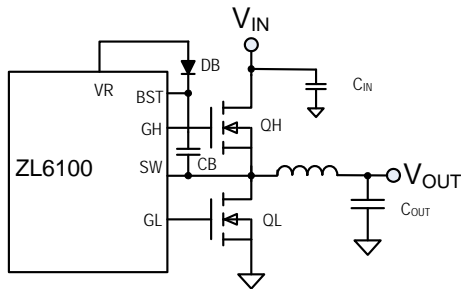

FIGURE 4. SYNCHRONOUS BUCK CONVERTER
Figure 4 illustrates the basic synchronous buck converter topology showing the primary power train components. This converter is also called a step-down converter, as the output voltage must always be lower than the input voltage. In its most simple configuration, the ZL6100 requires two external N-channel power MOSFETs, one for the top control MOSFET (QH) and one for the bottom synchronous MOSFET (QL). The amount of time that QH is on as a fraction of the total switching period is known as the duty cycle *D*, which is described by Equation 1:
Typically, buck converters specify a maximum duty cycle that effectively limits the maximum output voltage that can be realized for a given input voltage. This duty cycle limit ensures that the lowside MOSFET is allowed to turn on for a minimum amount of time during each switching cycle, which enables the bootstrap capacitor (CB in Figure 4) to be charged up and provide adequate gate drive voltage for the
The gate drive voltage for the high-side MOSFET driver is generated by a floating bootstrap capacitor, CB (see Figure 4). When the lower MOSFET (QL) is turned on, the SW node is pulled to ground and the capacitor is charged from the internal VR bias regulator through diode DB. When QL turns off and the upper MOSFET (QH) turns on, the SW node is pulled up to V_{DD} and the voltage on the bootstrap capacitor is boosted approximately 5V above V_{DD} to provide the necessary voltage to power the high-side driver. A Schottky diode should be used for DB to help maximize the high-side drive supply voltage.